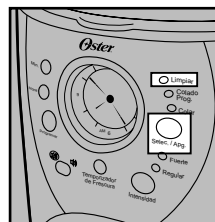

Figure 11
4. Press the Select (SELEC./APG.) button until the red Clean (LIMPIAR) indicator light turns on (Figure 11). For your convenience the cleaning cycle is automatic. The entire cycle will take 45-60 minutes to complete. During the cleaning your coffeemaker will: